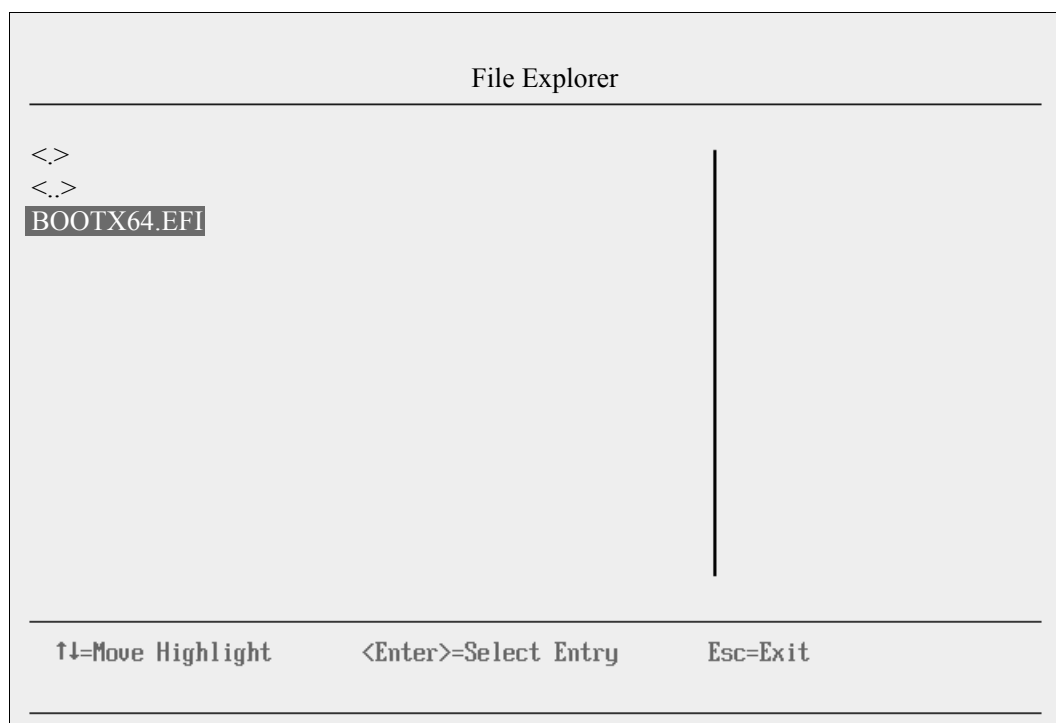

Figure 9-162 Selecting the BOOTX64.EFI file
5. Now that you are browsing the DVD, select **EFI**, select **BOOT**, and then select **BOOTX64.EFI** (Figure 9-162). This file name might be different if you are booting other versions of Windows, VMware, or Linux.